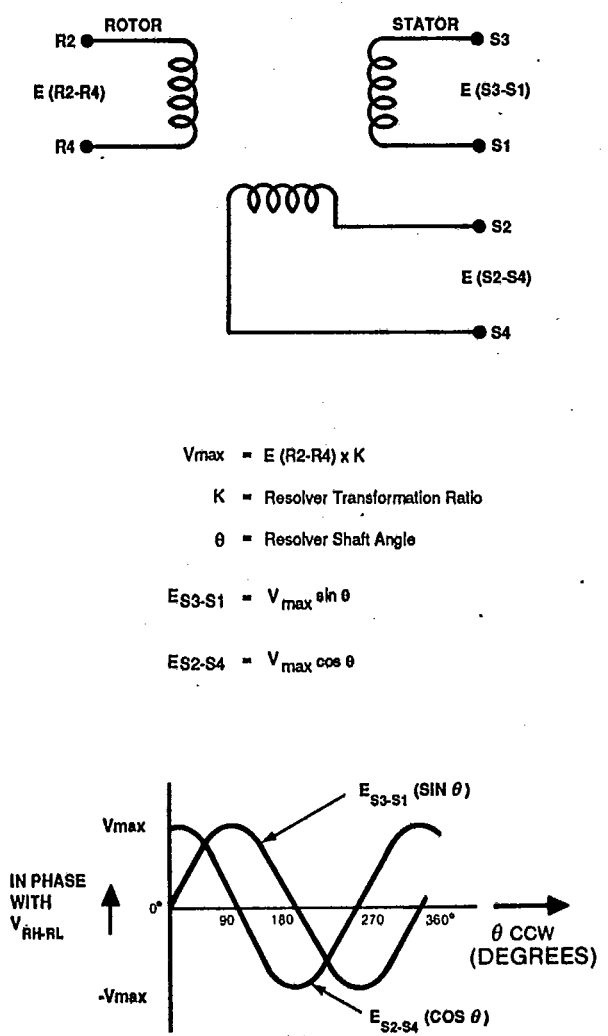
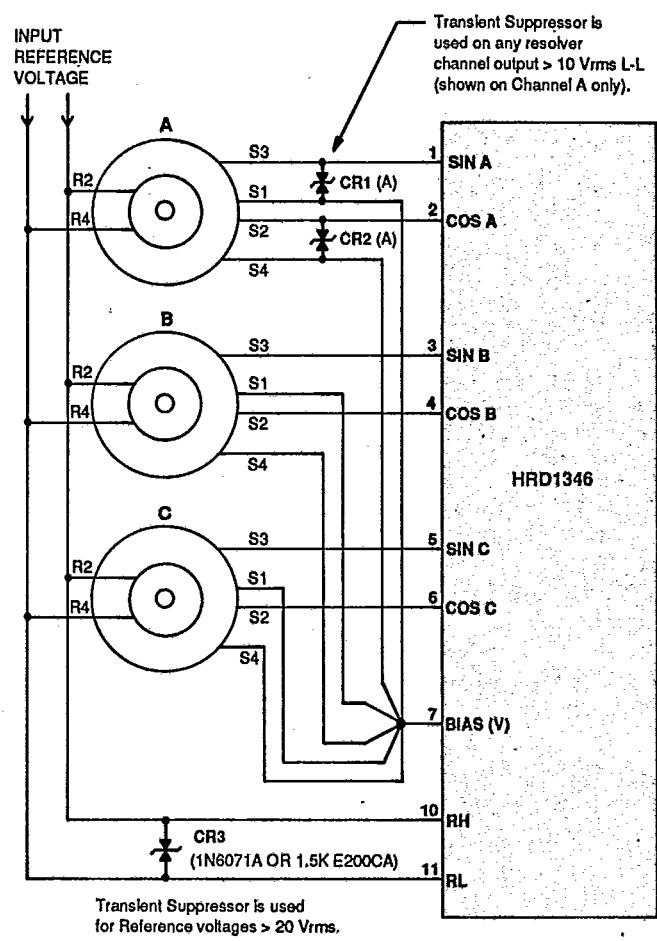

FIGURE 2 Resolver Conventions
FIGURE 3 Resolver Connections
Connections of resolver(s) to the HRD1346 are shown in Figure 3. Standard resolver "conventions" as applicable are shown in Figure 2. Resolvers normally contain a "rotor" winding (reference input) and two "signal" windings (sin and cos outputs). The sin(S3-S1) and cos(S2-S4) resolver outputs are signals which are proportional to the "product" of the "sin", "cos" (respectively) of the shaft angle  $\theta$  and the reference voltage (R2,R4 or RH, RL), multiplied by the resolver transformation ratio (K). The reference input to the resolver (carrier signal) is essentially modulated by the shaft angle, producing "modulated" sin and cos outputs. The waveforms in Figure 2 represent the "demodulated" sin and cos outputs of the resolver, which essentially shows the amplitude relationship (in phase or out of phase) of the sin and cos outputs with respect to the reference input.
Resolvers are typically connected as shown in Figure 3. The "bias" (V) connection at Pin 7 serves as the "signal low" or "return" for the sin and cos resolver signals. Bias (V) is
an internally generated "analog gnd" with a nominal output voltage of 2.15 V-dc. For optimum accuracy, it is best to tie the signal returns separately to common point close to Pin 7 of the HRD1346. The sin and cos pins are balanced resistive inputs, with the exception of the "direct" 0.5 V-rms input option, which is a voltage follower buffer input. The reference pins (RH,RL) are true differential resistive inputs, therefore either RH or RL inputs can be tied to power supply ground or left floating, depending on the source of the reference. When the nominal operating A.C. voltage levels on the signal and/or reference inputs to the HRD1346 exceed 10 V-rms, it is recommended that transient voltage suppressors be installed. Resolvers are highly inductive and can generate or couple transients many times greater than their normal signal voltages and can easily exceed the absolute maximum ratings. Suggested transient suppressors as shown in Figure 3 (or equivalent) should be used if high voltage transients are expected.